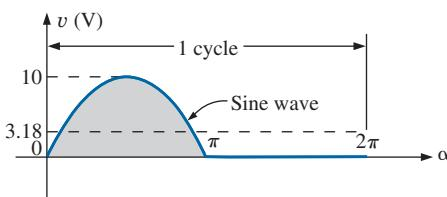

FIG. 13.55
**EXAMPLE 13.18** Determine the average value of the waveform in Fig. 13.55.